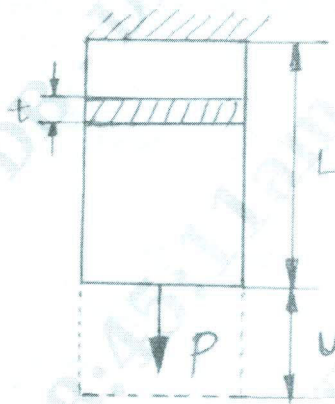

Fig.Q1(b)
- b. A rectangular bar is subjected to an axial load "p" as shown in Fig.Q1(b), determine the expression for P.E functional and hence determine value of the potential energy (PE) for the following data : $E = 200\text{GPa}$, $P = 3\text{kN}$, $L = 100\text{mm}$, $b = \text{width} = 20\text{mm}$, $t = 10\text{mm}$. (06 Marks)